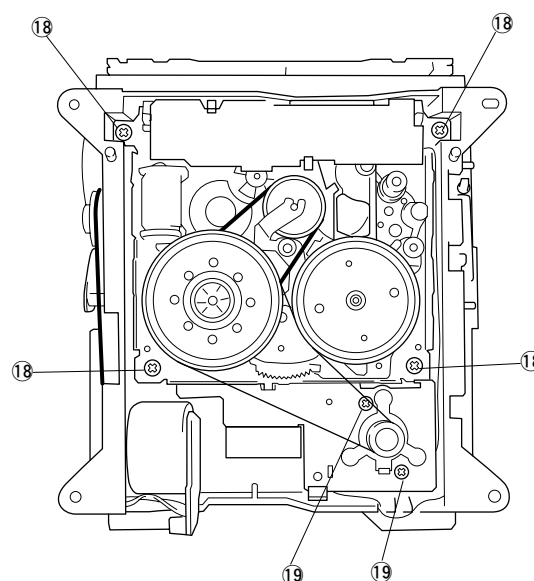

Fig. 14
Remove 4 screws (⑫) and then pull out the Cassette Mechanism in Fig. 14.
Remove 2 screws (⑬) in Fig. 14.